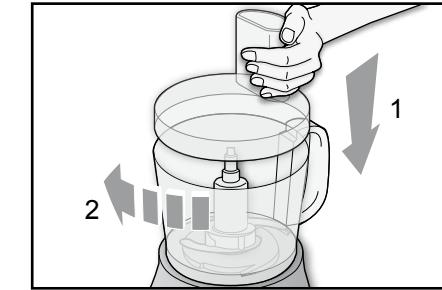

Fig. 7
- Cut the foods into small pieces and place them inside the bowl (D) or for mixing, insert the ingredients.
- Fit the lid (E) over the bowl (D) moving the mark inside the bowl (D) so that it is in line with the symbol (□'). Block the lid (E) so it clicks into place by moving it clockwise (□) (Fig. 7).
- Start the appliance, selecting the rotation speed of the blade using the operating dial (A). The appliance is equipped with a control knob for adjusting the speed from a minimum to a maximum.